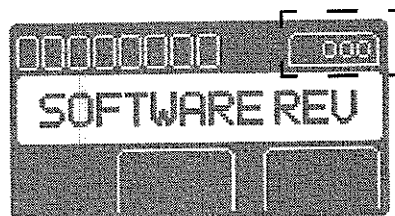
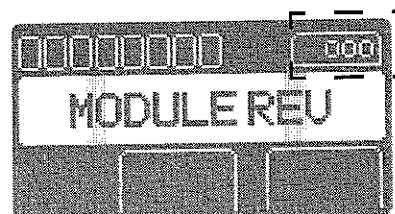

Figure 2 Software Revision Number Location
Figure 4 Module Revision Number Location
- The battery charger software and hardware revision numbers will also appear (see figures 2 and 3). If modules are installed, their revision numbers will also appear (see figure 4).